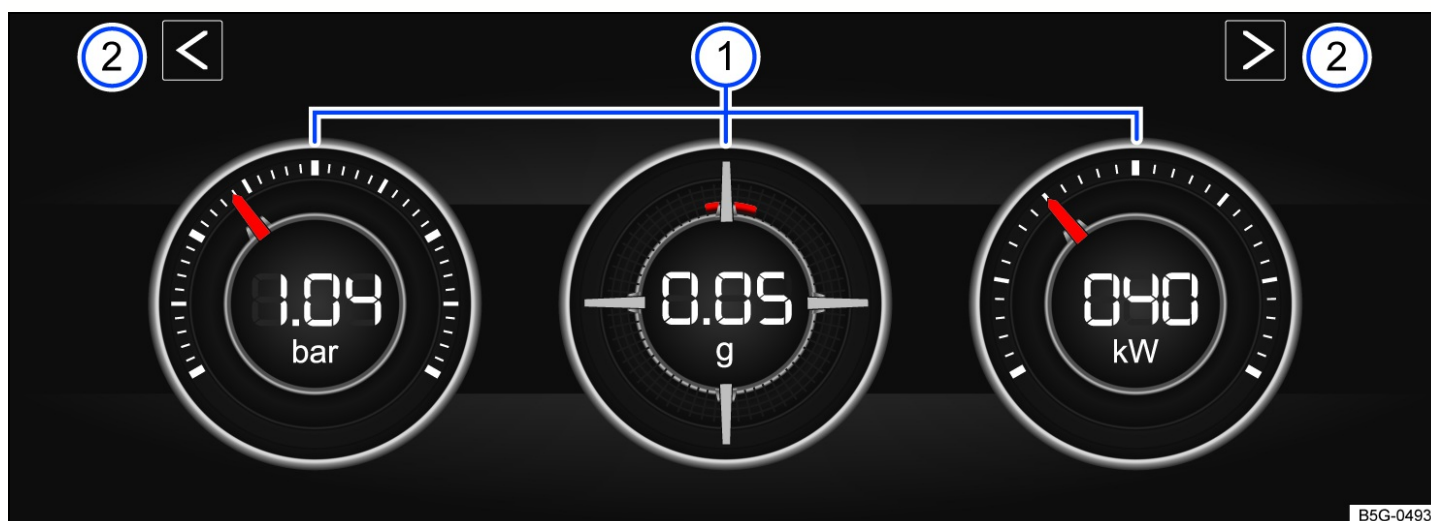

Fig. 21 On the Infotainment system screen: performance monitor.
If you want to switch between the performance monitor and the lap timer, tap one of the left or right arrow buttons above the instruments *fig. 21*.
The display can show a maximum of three instruments at the same time. Every instrument can be selected for any display area *fig. 21* (left, center, right).
- **Boost pressure indicator:** the boost pressure indicator *fig. 21* (left) displays the boost pressure between the turbocharger and the engine in bar. The farther to the right that the needle on the scale is, the more engine power is being used.
- **Accelerometer (g-meter):** the accelerometer (g-meter) *fig. 21* (center) displays the acceleration value in the center area in g. The red marking in the tab area shows the intensity of the acceleration and the direction of the force. The force in effect is contrary to the physical laws. For example, if you drive to the left, the red marking will move in the right area of the instrument and vice versa. When accelerating, the red marking will move downward. When braking, the red marking will move upward. The intensity of acceleration is indicated by the position of the red marking from the inside to the outside. If you accelerate faster, the red marking will disappear from the center area.
- **Power gauge:** the power gauge *fig. 21* (right) shows the engine power that is being currently used as a digital value displayed on the surrounding scale in kW.